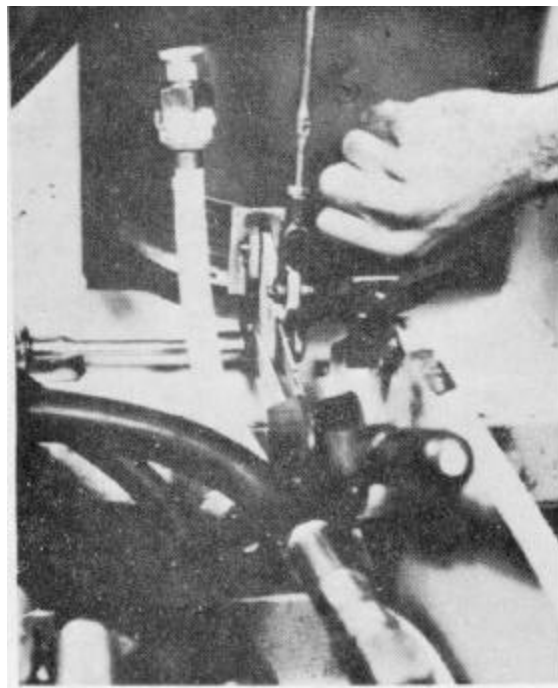

Figure 5-3
6. Remove the bolt and lock nut attaching the hand parking brake lever linkage to the bell crank on the traction motor, using a 9/16 inch wrench (Fig. 5-3).